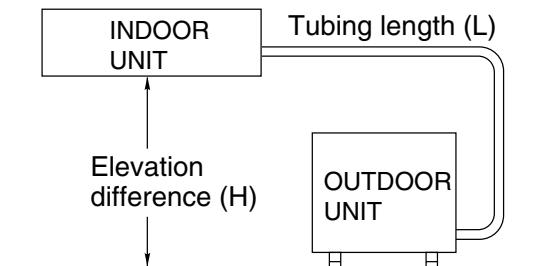

Fig. 37
Install unit within the maximum elevation difference (H) above or below the outdoor unit and within a total tubing length (L) from the outdoor unit as detailed showed in Table 4 and Fig.37.